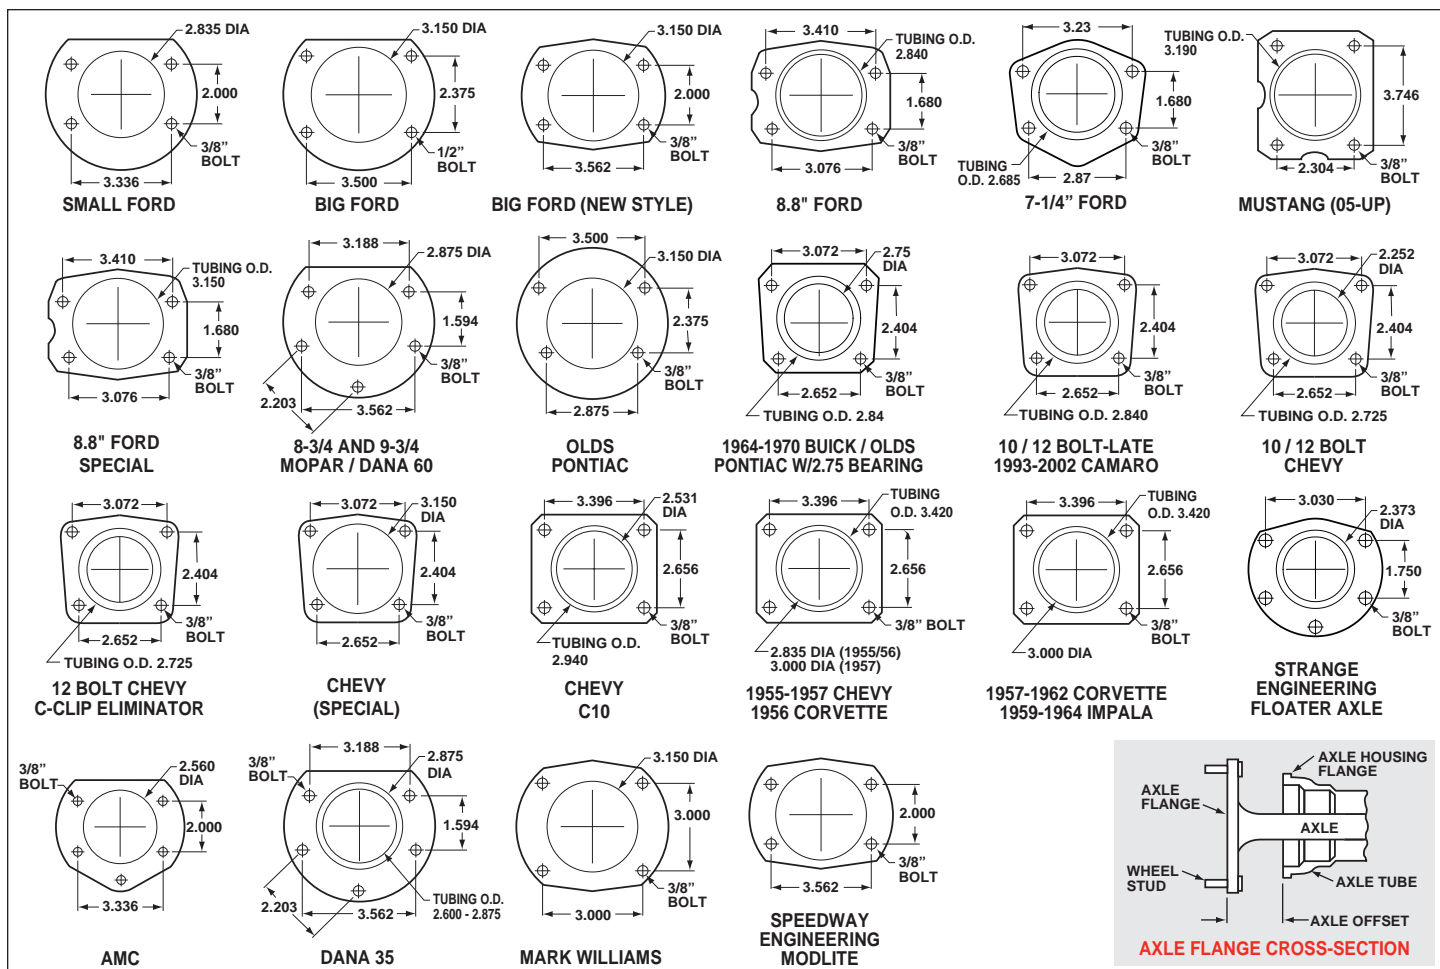

Figure 5. Rear Housing Flange Chart and Axle Flange / Offset Cross-Section
- Make sure this is the correct kit to fit the axle housing flange, not necessarily the rear end make. Many times after market manufacturers put a different make of axle housing flange on the stock rear end housing (see Figure 5). Example; Big Ford rear ends with Olds-Pontiac flanges, therefore, an Olds-Pontiac rear disc brake kit would be the correct kit to order. Also, shock clearance may be a problem. They may have to be modified and/or relocated to clear the Wilwood kit after final assembly.
- Dimension from wheel side of axle flange to wheel side of axle housing flange (see Figure 5, lower right hand corner). This dimension is critical to ensure proper alignment of the rotor to the caliper, and should match offset given in the kit description.